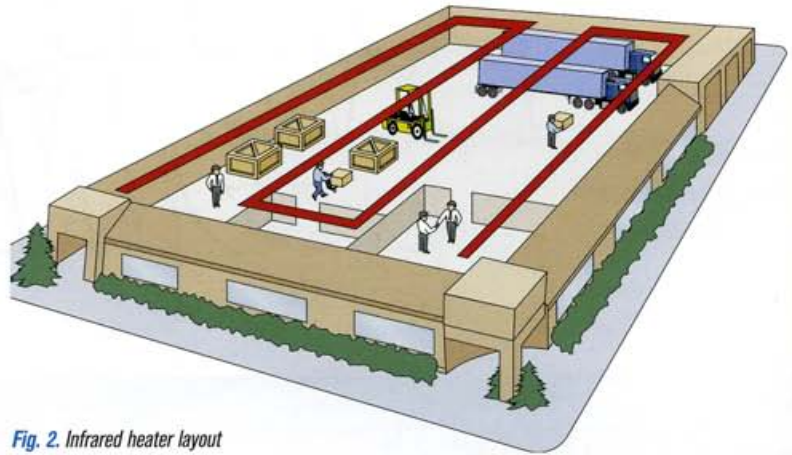

Fig. 2. Infrared heater layout
**Tube-style infrared (radiant) heaters** burn gas inside a long tube, radiating heat from the tube surface. A polished reflector directs the radiant heat to the floor. The units are excellent for heating objects, spot warming people, and for specific zone heating applications (Fig. 2). Published efficiency is 80% to 92%, based on moderate tube length and mounting heights 15-18 ft. above the floor.